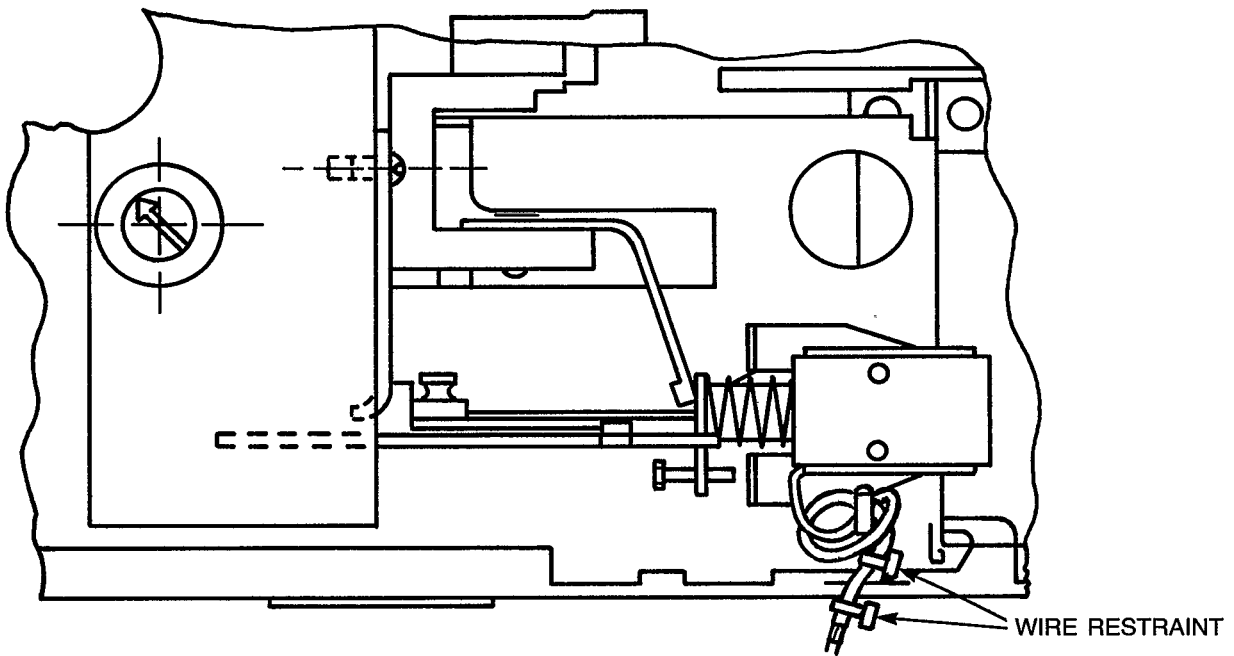

Figure 6. Sketch of the undervoltage release accessory in place in the circuit breaker, showing the position of the wire restraints.
10. Replace the handle shield removed in Step 3. Position the wire tie restraints with one on each side of the circuit breaker wall, as illustrated in Figure 6. Replace the circuit breaker cover and tighten the cover mounting screws.
9. Replace the handle shield removed in Step 3. Position the wire tie restraints with one on each side of the circuit breaker wall, as illustrated in Figure 6.